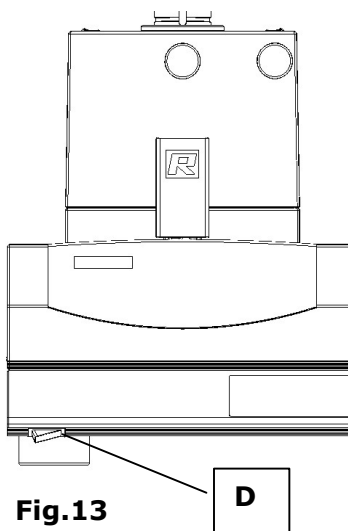

Fig.13
- Switch on the RM200 with switch **D**. **Fig.13**
- The milling operation is started with the start button **Q. Fig.13**